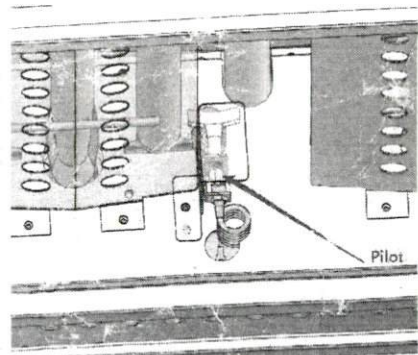

Fig. 3
- Put the machine upside down. You will see the pilot in Fig. 3. UnscREW the gas tube from the pilot burner and carefully pull it away from the pilot burner.